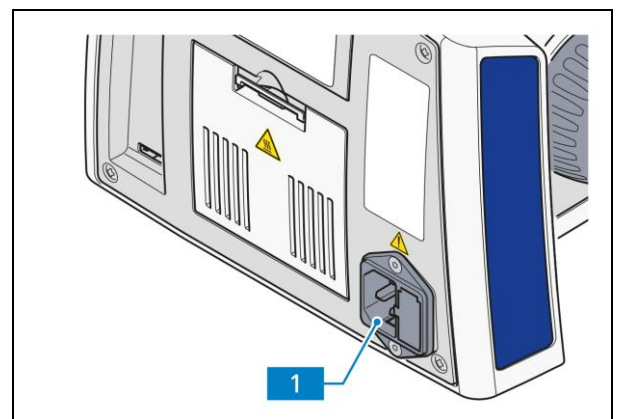

Fig. 3-31 Power supply connector on the back of the stand
- Connect the microscope (Fig. 3-31/1) to the power supply via a power cord and mains socket.